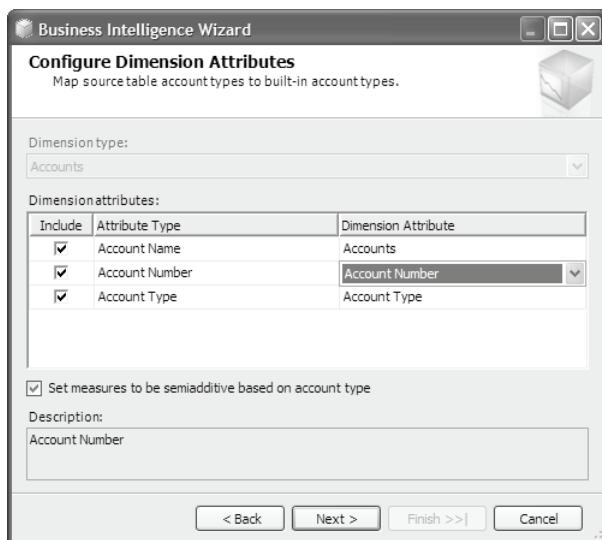

Figure 5.27 Specify the Account attribute mappings. The most important attribute is the Account Type.
4. Use the Configure Dimension Attributes step (Figure 5.27) to map the Account dimension attributes to the three pre-defined attribute types that are supported by UDM. The most important one is the Account Type attribute because its members will represent the account categories that you will need to match in the next step of the wizard. The Account Name and Account Number attributes are for client convenience only.